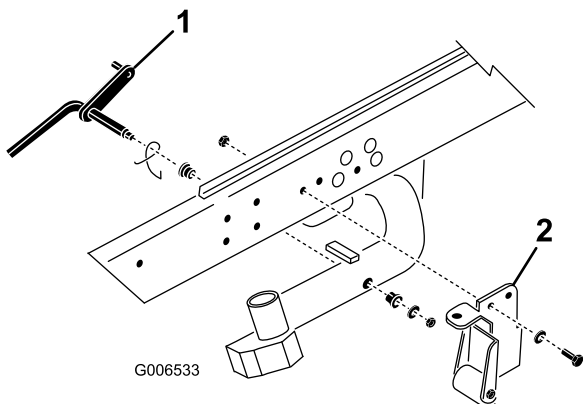

Figure 9
1. Remove the lock nut and washer securing the pivot rod to the #2 lift arm (Figure 9). Remove the pivot rod and spring from the lift arm. Repeat the procedure on the #1 and #3 lift arms.
Note: The tipper bracket w/roller and the tipper support brackets are not required when operating the DPA cutting units (Figure 9). They may be removed if desired.